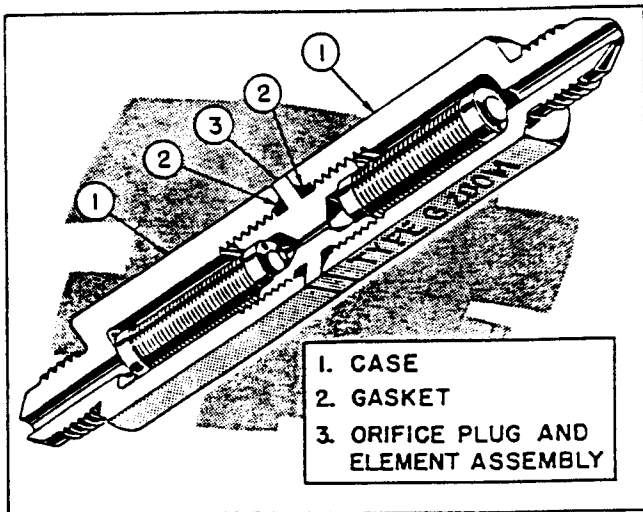

Figure 37. Reservoir Return Line Filter and Restrictor
(15) **FILTERS.** (See figures 37, 38 and 39.)
(c) **DISASSEMBLY, ASSEMBLY, AND REPLACEMENT.**- The units are easily disassembled and assembled for cleaning or replacement of elements. See figures 37, 38, and 39.